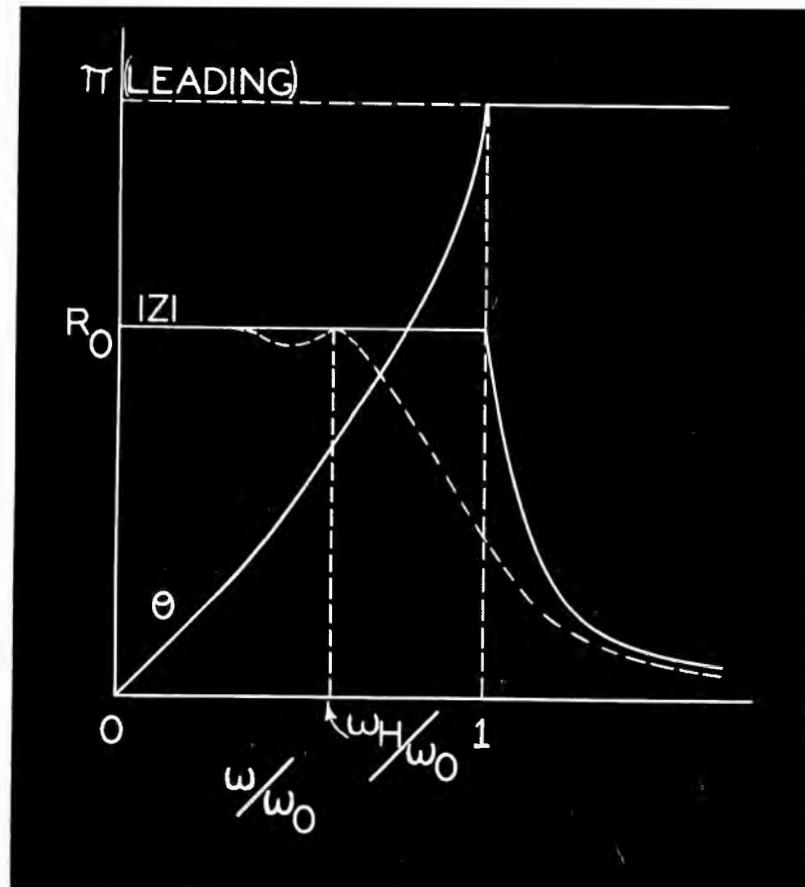
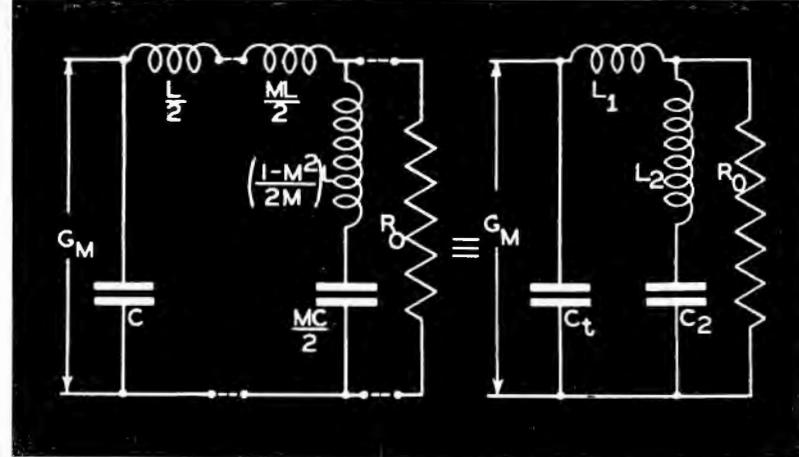

Figure 9
Figure 11
However, the impedance looking into an m-derived section terminated in R_0 is more nearly that of the true image impedance up to a point very close to the cut-off frequency than is that for its prototype, the constant k section, similarly terminated, particularly for $m = 0.6$. Hence, if we take a half section and terminate its T end with a series m-derived half section terminated itself in the normal image impedance R_0 , then the impedance looking into the π end of the constant k half section will be very closely that of a perfectly terminated section up to pretty nearly its cut-off frequency. If an equal amount of capacity be added to its π end (as per the method of Percival) then the impedance will be very close to that given in Figure 9. The circuit is shown both in synthesis and in final form in Figure 11, where the values for the various circuit parameters are also indicated. As stated in the Figure, the frequency f_R at which the response begins to fall off is about 95% of the cut-off frequency according to Wheeler³, and experimentally it has been found
quency although its phase angle increases with increase of the above ratio. The actual plot of Eq. (10) is given in Figure 9. It is at once evident that such a load impedance in the plate circuit of a video amplifier stage will have a perfectly flat gain up to the cut-off frequency ω_0 and then will drop off asymptotically to zero. This indicates a very desirable state of affairs, but it must not be overlooked that the phase shift is not strictly linear with frequency in the pass band and will thus offset to a certain extent its favorable amplitude characteristic.
amplitude response are shown by the broken line curve in Figure 9.
followed by another half section thus forming a complete π section before termination with R_o . The band width is thereby increased. In (C) we see the circuit of (B) further built out with an additional half section before termination with R_o , and the band width is correspondingly greater. In (D) we see a simpler configuration which is equivalent to that shown in Figure 11 in which a shunt m-derived section is employed. The optimum value of m in either case is about 0.6. A more accurate evaluation of the circuit parameters of this configuration will be given further on.